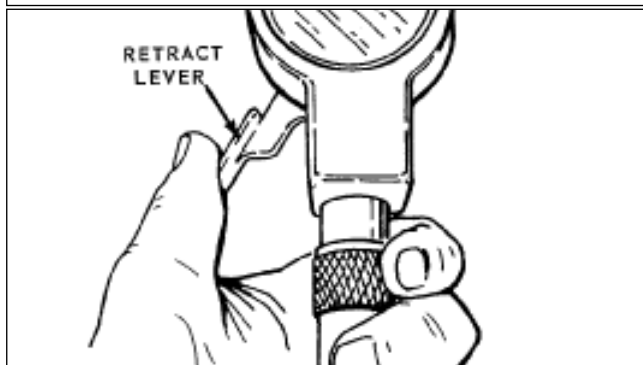

FIGURE 2
4. Lock Gage Point (G) with Locking Nut (C), using wrench furnished.
7. To retract centralizer points and indicator point squeeze Retract Lever (*see Figure 2*).